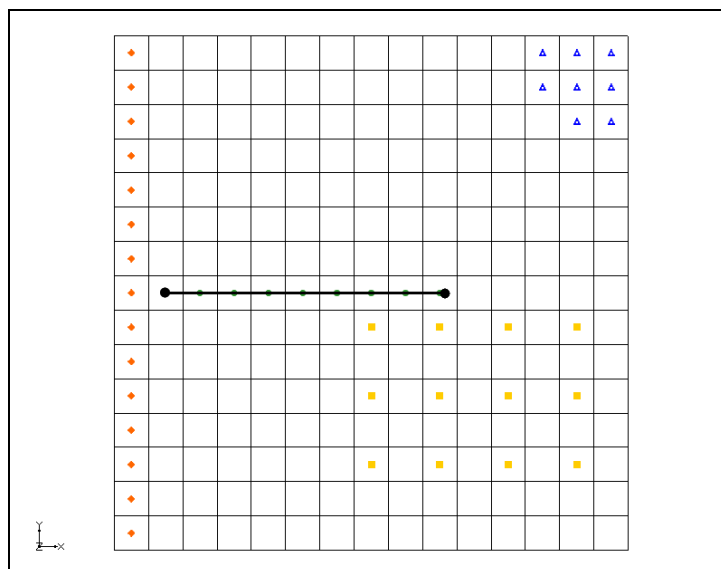

Figure 3 Creating an arc for the drains
2. Create an arc for the drains as shown in Figure 3. Make sure the left end of the arc does not enter the specified head cell on the left side of the model.